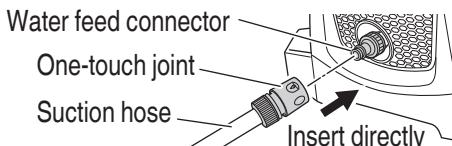

Fig. 18
4. Insert the one-touch joint into the water feed connector (Fig. 18)